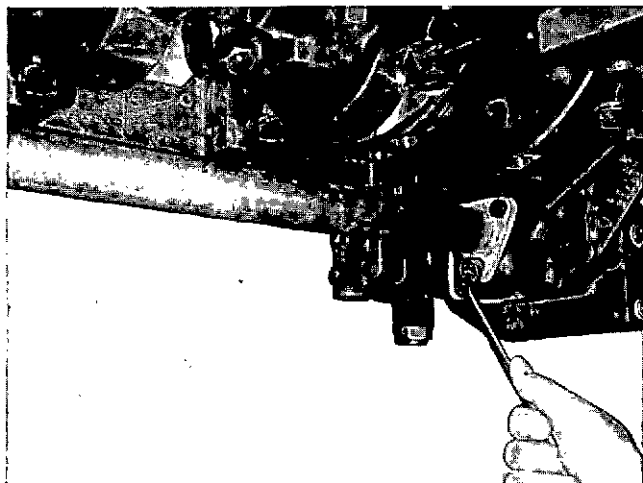

Fig. 14-1-25, V414221. Install suction tube assembly
5. Assemble lubricating oil suction and discharge lines, connections and clamp, using new "O" rings and gaskets. Fig. 14-1-25 through 14-1-28.